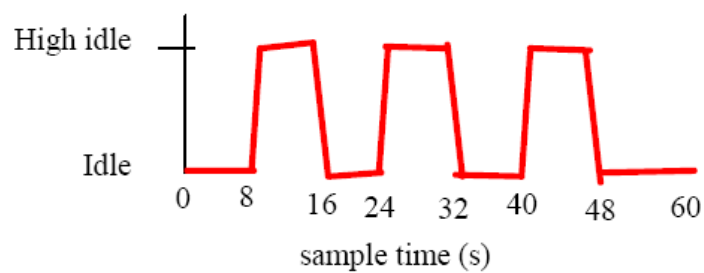

Figure 2 - Diesel particulate load cycle – Alternative method
- h) Testing shall be carried out over a 60 second cycle and on the undiluted raw exhaust as indicated in **Figure 2** below.